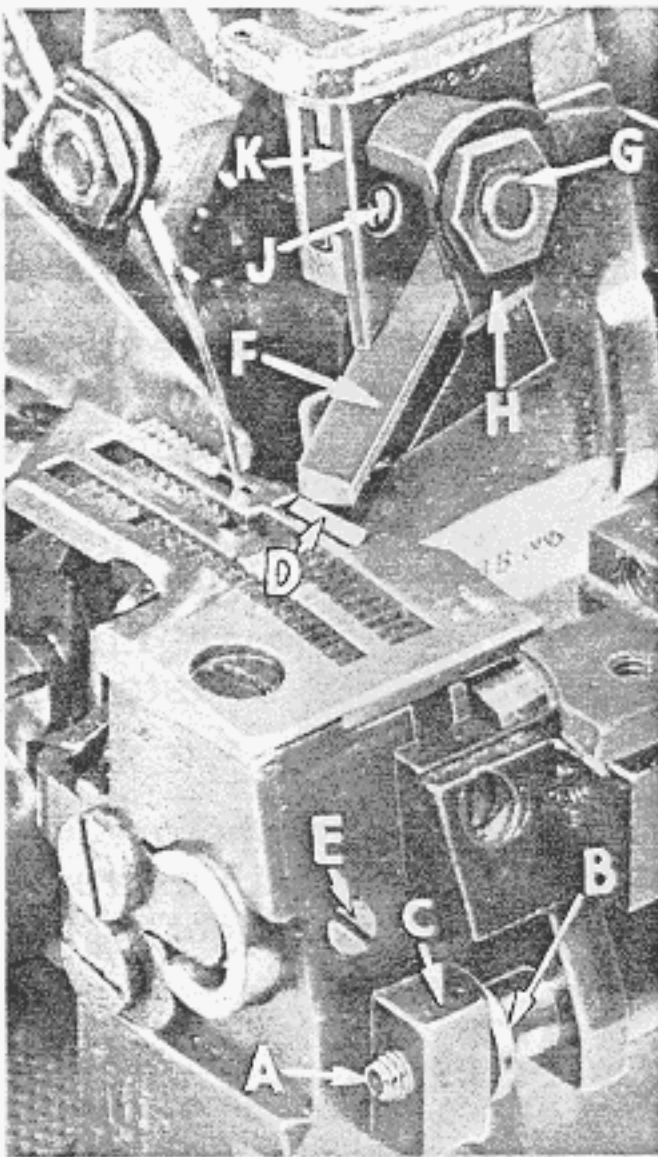

Fig. 11
Replace lower knife holder assembly. In replacing the lower knife holder assembly, tighten screw (A, Fig. 11) so that when the face of the flange on sleeve (B) seats against the throat plate mounting bracket (C) a free lateral motion of the lower knife and holder assembly is obtained when the knife is manually pressed at its upper corner. Lower knife (D) should be set with cutting edge flush with throat plate surface. Adjustments are made with hexagonal head screw which holds lower knife. Lower knife is spring pressed against upper knife, so no lateral adjustment is necessary when width of trim is changed.
Replace upper knife assembly. Clamp upper knife (F, Fig. 11) in position, setting nut (G) to hold clamp (H) in its most clockwise position against upper knife. At bottom of its stroke, front cutting edge of upper knife should extend not less than 1/64 inch below cutting edge of lower knife. The chain guard should be set down against the upper knife and slightly back from the cutting edge.